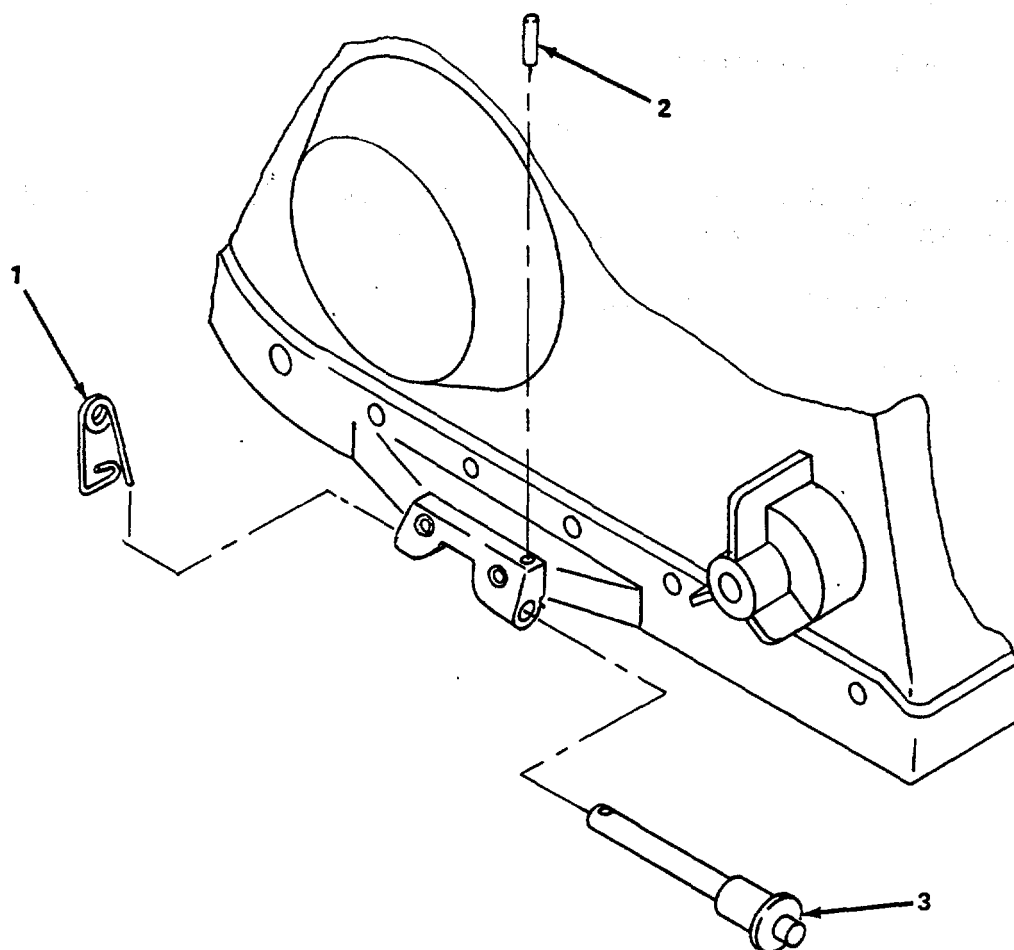

Figure 4-21. Quick Release Pin, Replace.
- (1) *Replace quick release pin.* (figure 4-21)
- (a) Remove safety pin (1).
- (b) Remove roll pin (2) and quick release pin (3).